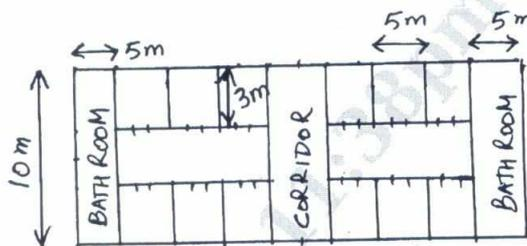

Fig.Q3(b)
- b. A floor of a 3 story hostel is shown in Fig.Q3(b). Each room is required to have two lights and a 60 W fan. The Bathrooms have two heaters each. Calculate the total current, sub-circuits and show a neat single line diagram with the wiring connections. Clearly show the total power, no. of sub-circuits, cable size, position of the lights, fans and provide a list of materials. (14 Marks)